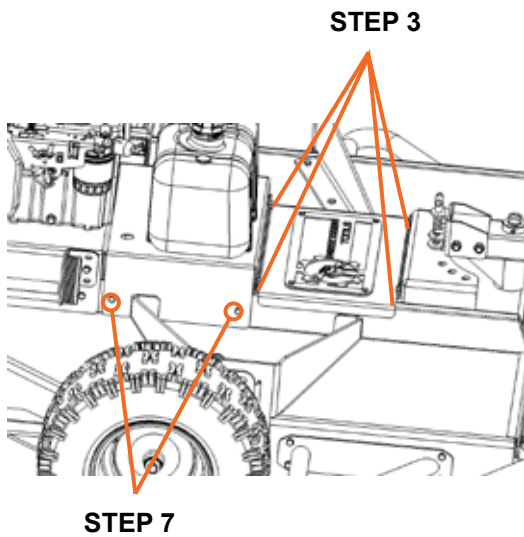

Figure 13
2. Remove the pulley cover (see Figure 13).